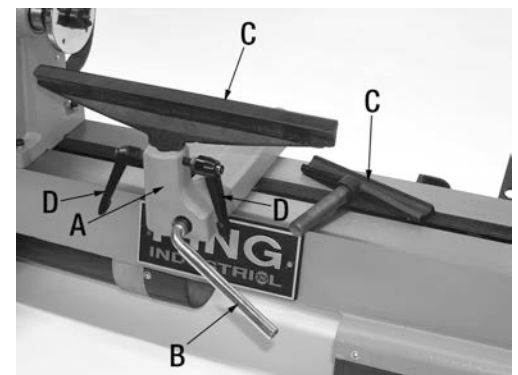

FIGURE 10
1. Slide the tool rest base (A) Fig.10 onto the lathe bed using the provided slotted clamp and large hex. nut, to allow for adjustment, do not fully tighten hex. nut.
2. Secure the tool rest base by turning the tool rest base lock lever (B). If the lock lever will not lock the tool rest base down onto the bed, loosen or tighten the hex. nut (located on the underside of the tool rest base) in small increments to achieve proper clamping pressure.
3. Insert the desired tool rest (C) into the tool rest base and fix it in place using the lock handles (D).